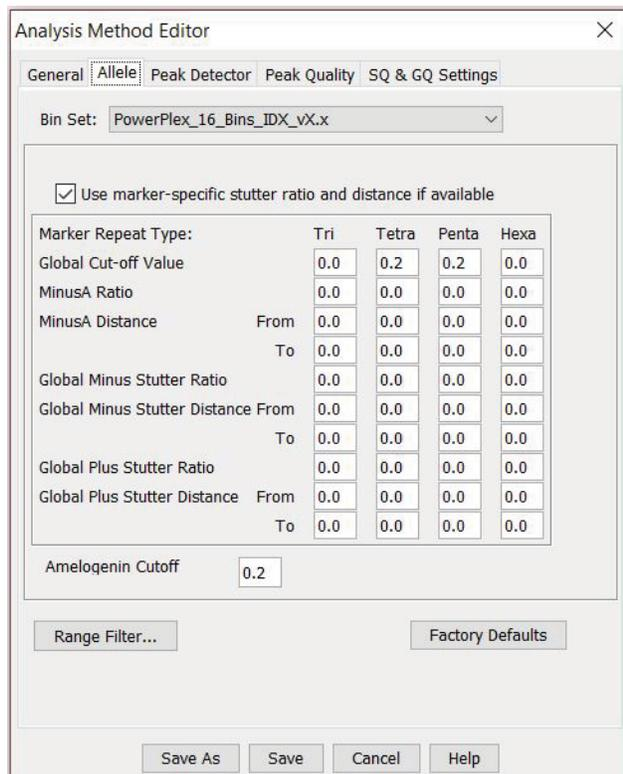

Figure 26. The GeneMapper® ID-X 'Allele' tab with settings for using a 20% peak filter.
6. Select the 'Allele' tab (Figure 26).
8. Ensure that the "Use marker-specific stutter ratio and distance if available" box is checked. Doing this will assign locus-specific stutter files and distances from the imported stutter file. Ensure that the appropriate global filter is applied to this analysis method. For example, for a 20% filter, enter "0.20" for the Global Cut-off Value for Tetra and Penta repeats (Figure 26).